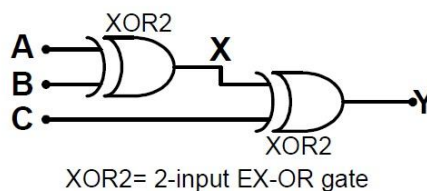

Fig. 2: Logic circuit in Part-5
- B.1) Construct the circuit given in Fig. 2, and then obtain the truth table. Write the logic expressions for X and Y. Can this circuit be used as a three-input XOR?